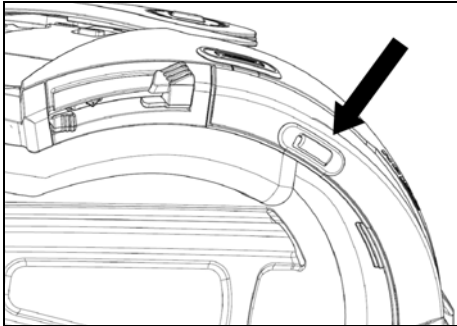

Fig. 6
- Remove the protective film and apply the plastic clip on the helmet shell gasket, on the left side. Position the clip as shown in Fig. 6.